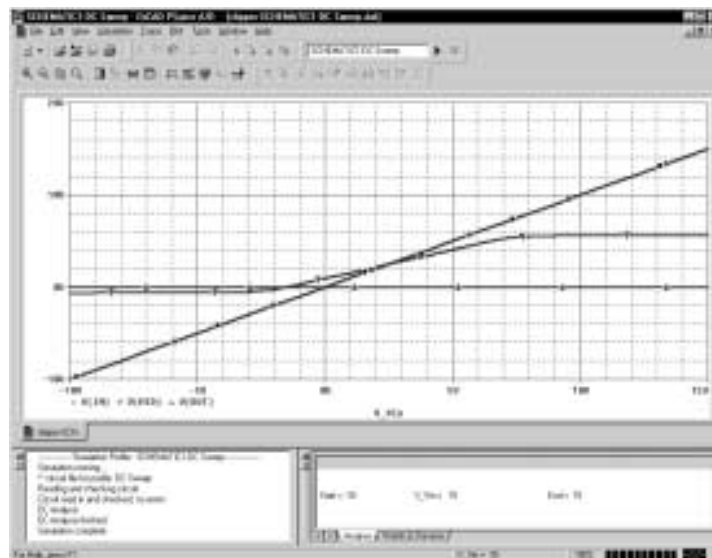

Figure 2-9 Voltage at In, Mid, and Out.
- Switch to PSpice. The V(Out) waveform trace appears, as shown in Figure 2-9.